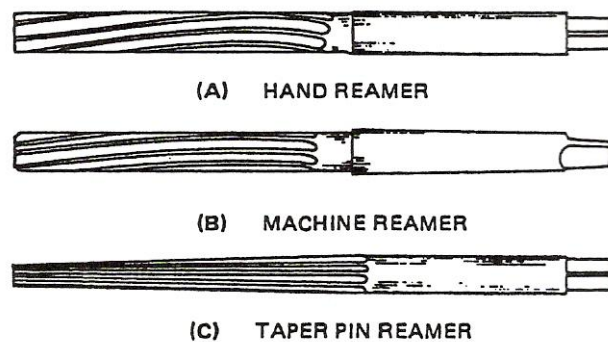
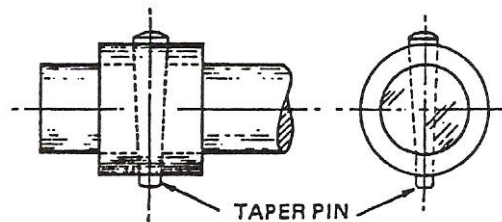

Figure 42 – Reamers
Figure 43 - A Collar Fixed to a Shaft by Means of a Taper Pin
Reamers are used for finishing holes smoothly and accurately. A slightly undersize hole is first drilled and the reamer is then used to finish it to size. Reamers are usually made from high-speed steel. There are various types available. A hand reamer, Figure 42 (A), has a square end for a tap wrench and can have either straight or helical flutes. Figure 42 (B) shows a machine reamer. It has a taper shank and is held in the drilling machine spindle or in the tailstock of the lathe. A taper pin reamer is shown in Figure 42 (C). It is used to enlarge and taper a hole to suit a taper pin, Figure 43. A reamer must always be turned clockwise, whether being entered or withdrawn from a hole, and a cutting fluid should be used as appropriate.